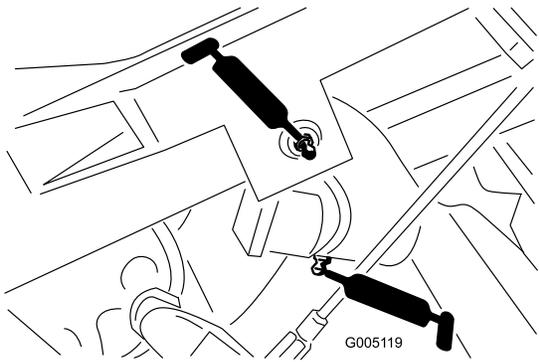

Figure 29
- Lift-arm pivot (3) and pivot hinge (3) (Figure 29)